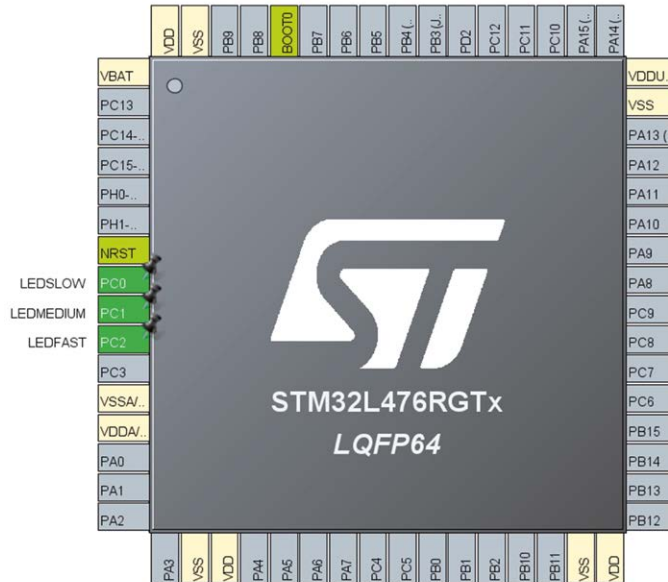

Figure A.2: Configuring the outputs.
- Configure **PC0**, **PC1**, and **PC2** as **GPIO\_Output**. Right click on the pins and set the **User Labels** to **LEDSLOW**, **LEDMEDIUM**, and **LEDFAST** respectively (Figure A.2)